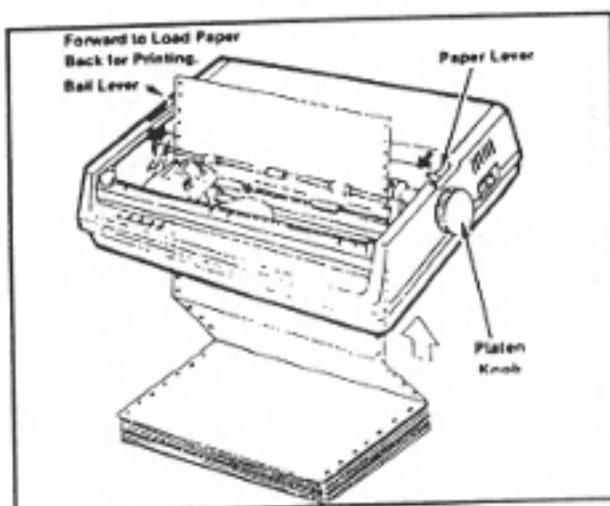

FIGURE 56. Bottom Paper Feed Loading.
4. Lift the bail. (Bail lever forward). The paper lever should be open (forward). Refer to Figure 56.
5. Take the first sheet of paper and feed it through the bottom of the printer and into the paper guides, as per Figure 56.
NOTE: Adjustable pin feeds should always be set to accommodate 9 1/2" width print paper (P/N 0528-0994). If for some reason pin feed width is not set at 9 1/2", re-set by pushing the pin feed adjustment levers (located just to the outside of each set of pins) forward and sliding the mechanism(s) to the correct 9 1/2" width. Push adjustment levers back into place to lock mechanism in new position. Refer to Figure 56.
Before operating the printer, verify that the paper has been loaded correctly and the proper indicators are lit as described in "Printer Controls". Also check that bail lever and paper lever are set as shown in Figure 56.